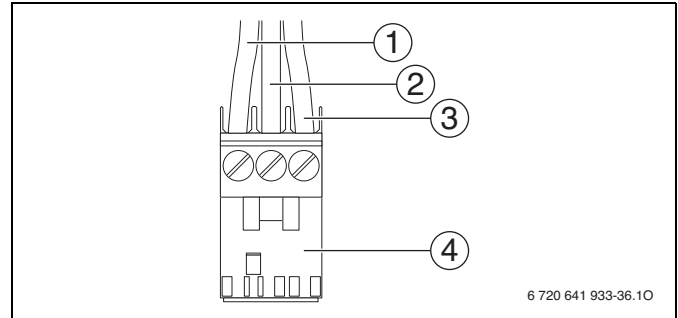

Fig. 49 Attach plug (mains power supply)
- ▶ Connect cable to **the white plug** according to Fig. 49.
- ▶ Connect the lead labeled BOILER GROUND (green) to pin 2 (center, → Fig. 49 [2]) of the white plug in the boiler junction box.